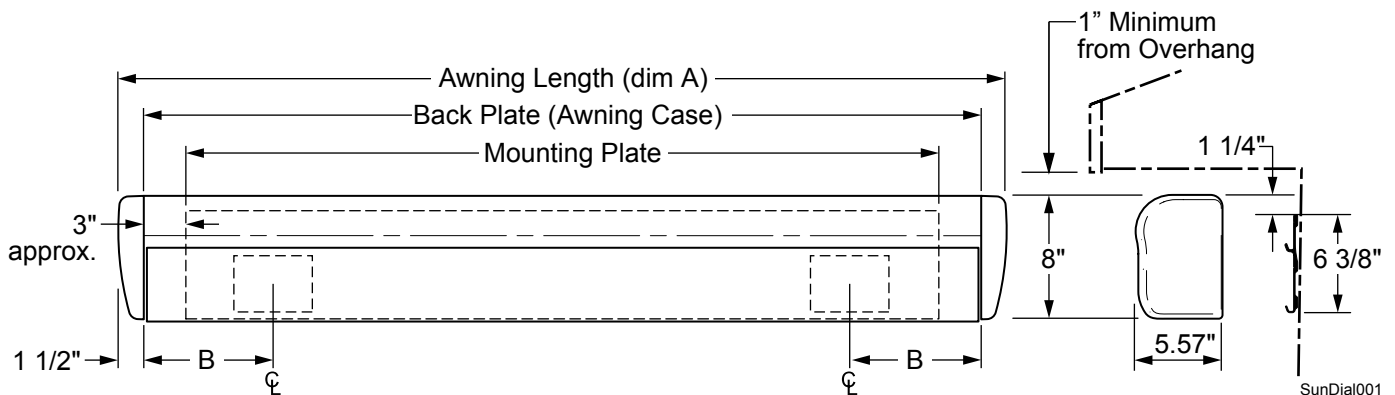

Figure 1. General Description.
- General profile dimensions are shown in Figure 1;
- The mounting plate is 9" shorter than the awning; 6" shorter than the back plate. (Reference Figure 1)